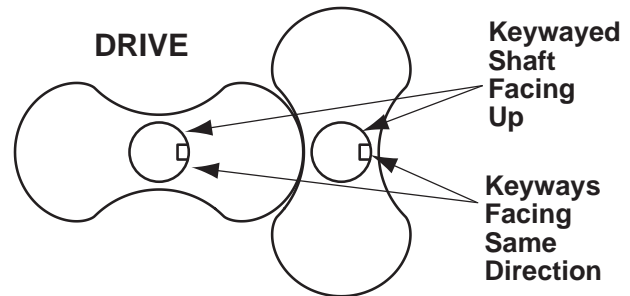

Figure 8-3 – Keyways
3. Stand rotors on arbor press table with the gear end shafts up. **See Figure 8-3**. Two keyways should point in the same direction, to the right.